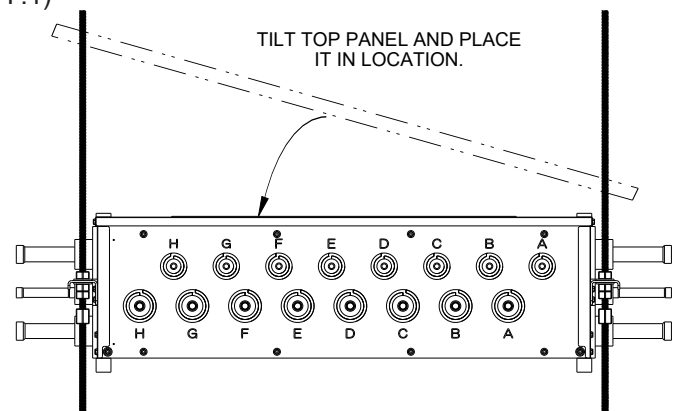

FIGURE F.1
- When installing the Enclosure, ensure there is enough clearance above the unit to install the Top Panel (Refer to Fig. F.1).
- 1.3 Install the top panel (Item 1) by tilting the top panel diagonally between the ceiling rods, aligning the ceiling rods in the 4 cut-outs of the top panel. (Refer to Figure F.1)